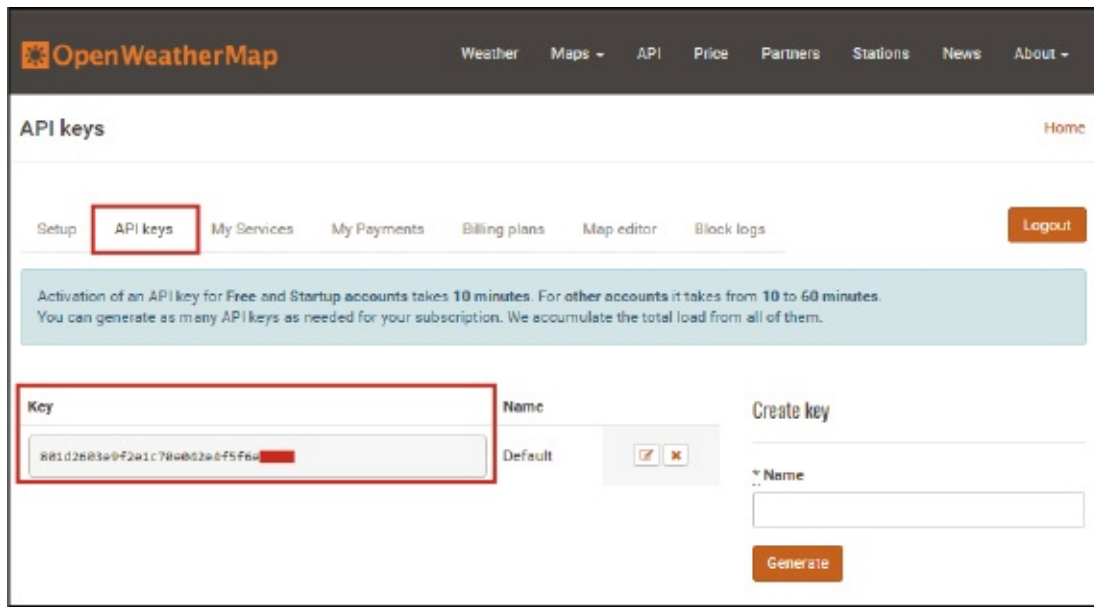

FIGURE 7-2: API keys on OpenWeatherMap
3. You’ll be presented with a dashboard that contains several tabs. Select the **API keys** tab, as shown in Figure 7-2.
4. On the API keys tab, you'll see a default key (shown in Figure 7-2); this is a unique key you'll need to pull information from the site. Copy and paste this key somewhere; you'll need it in a moment. You can create a new key for each separate project if you like, but if you aren't familiar with using APIs, we'd recommend just using the default key provided.